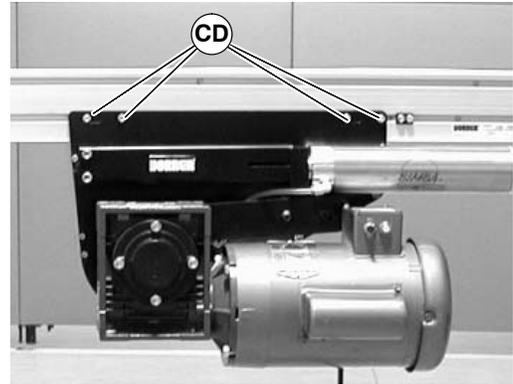

Figure 51
2. If necessary, adjust the tracking cam: loosen the center drive fastening screws (CD of Figure 51) on the side of center drive to be tracked.
4. Tighten the center drive fastening screws (CD of Figure 51) to 146 in-lbs (16.5 N-m).